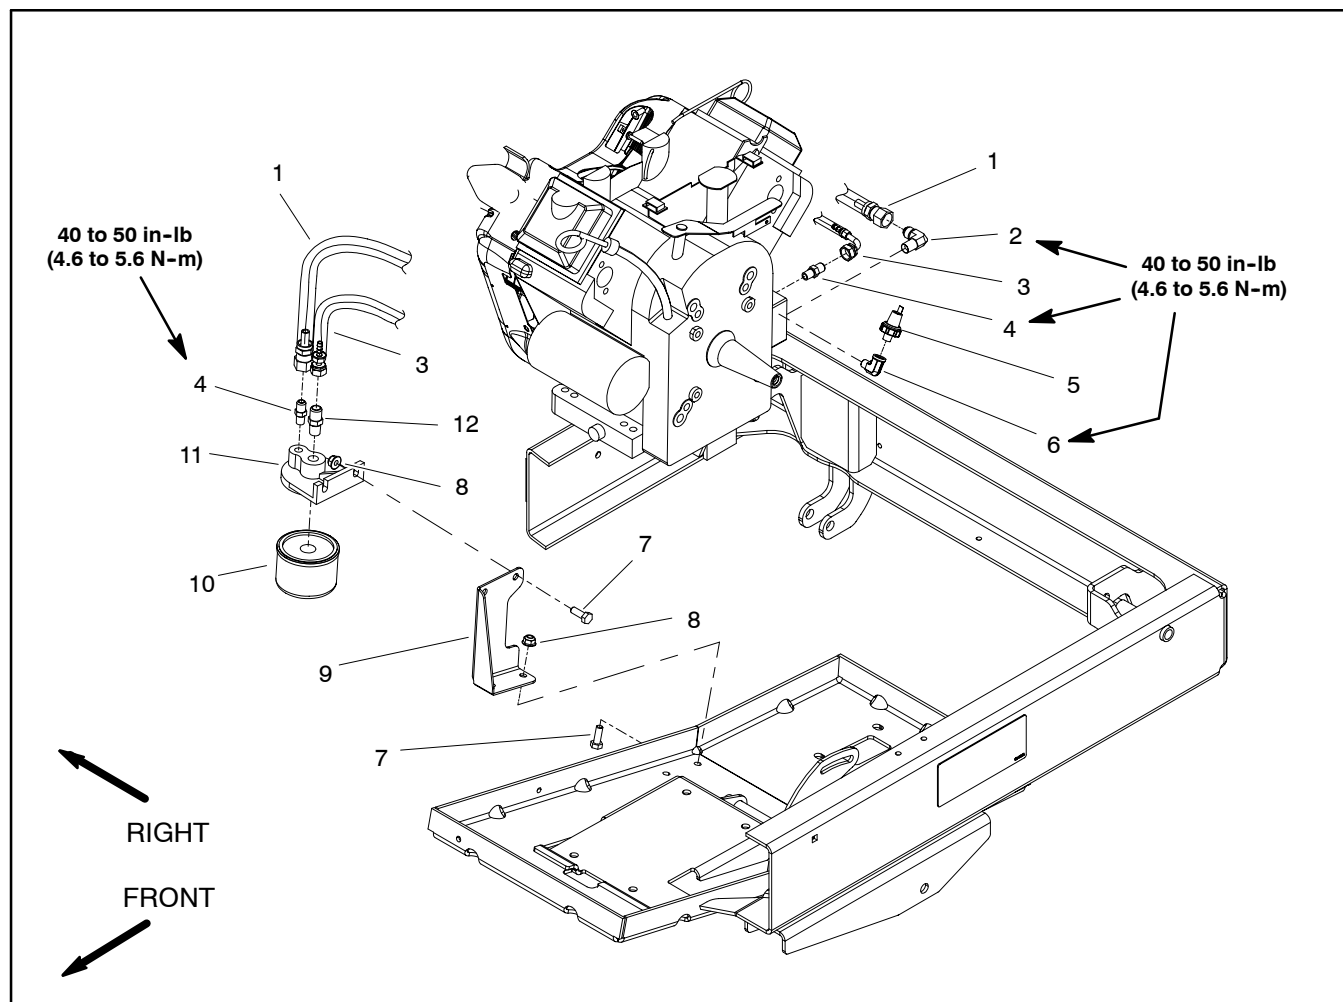

Figure 11
Removal (Fig. 11)
4. Remove oil filter adapter components as needed using Figure 11 as a guide.
Installation (Fig. 11)
1. Install removed oil filter adapter components using Figure 11 as a guide. Torque fittings (items 2, 4 and 6) from **40 to 50 in-lb (4.6 to 5.6 N-m)**.